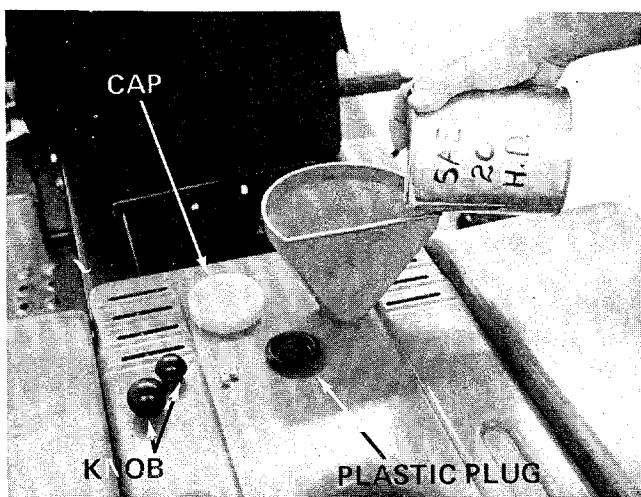

FIGURE 16.
4. If it is necessary to add oil, remove the plastic plug, unscrew the cap on the reservoir/expansion tank and add oil through the hole with a funnel. Do not overfill. See figure 16.